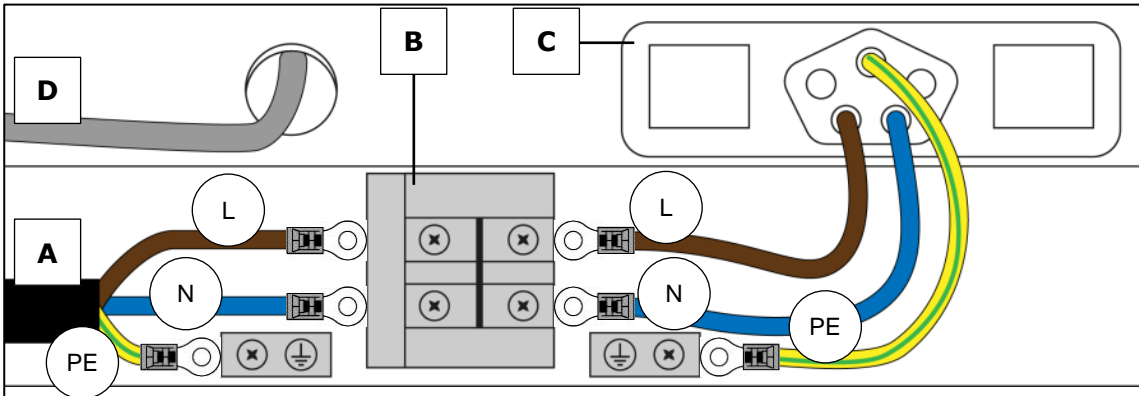

Figure 56: Connections in Power Bar
- Step 2) Run the data cable (see Figure 56, D) from the video controller through the Power bar to the first Hub board of a column.
- Step 2) Connect the conductors of the external power cables (L, N, PE) to the terminals in the Power bar. See also Figure 56.
Connect each conductor (L, N, PE) to its appropriate terminal (L, N, PE). The coloring and the positions may differ from Figure 56.